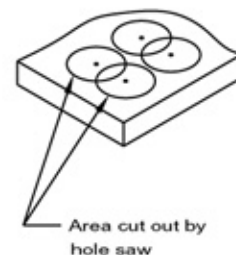

Figure 2
- Remove the template and cut two 2-1/4" holes using the pilot holes to align the hole saw (Figure 2).